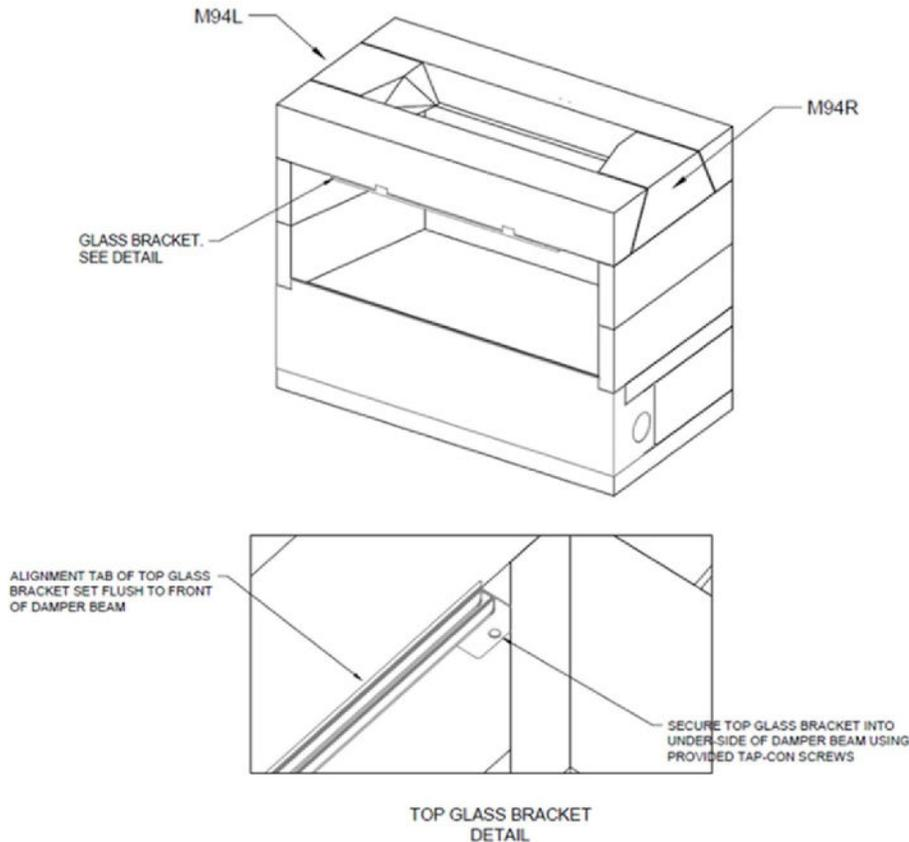

FIGURE 18
- 10) For the 48" model, secure the Top Glass Bracket B (E-TG1) to the underside of the front damper beams using the provided 1/4" tap-con screws. The tap-con screws will require a 3/16" pilot hole to be drilled prior to attachment. It is recommended to coat the 1/4" tap-con screw with Earthcore Adhesive before inserting into pilot hole to create a sealed fastening (Figure 18).